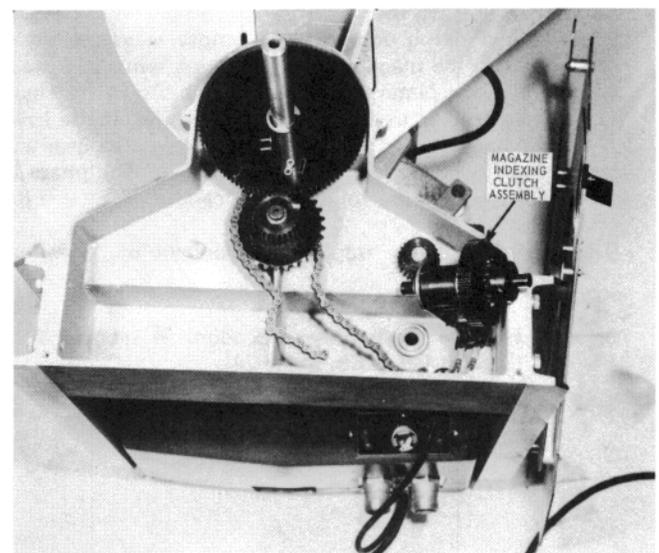
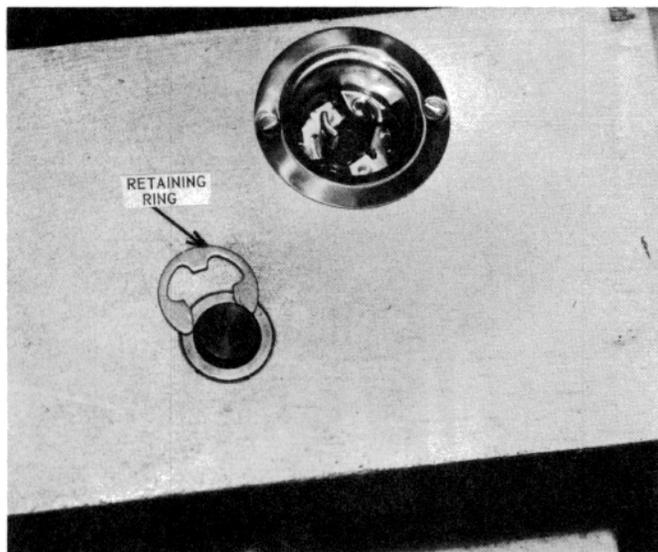

Figure 89 – Removing Indexing Clutch Assembly
Figure 90 – Magazine Clutch Retaining Ring
- 7.1.7 The magazine indexing clutch (see Figure 89) is removed by disengaging the clutch shaft retaining ring (see Figure 90) located beneath the magazine gearbox.